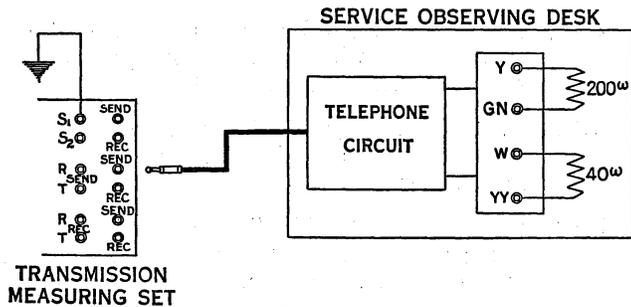

Figure 2
- 2.17 Figure 2 shows schematically the connections for the test.